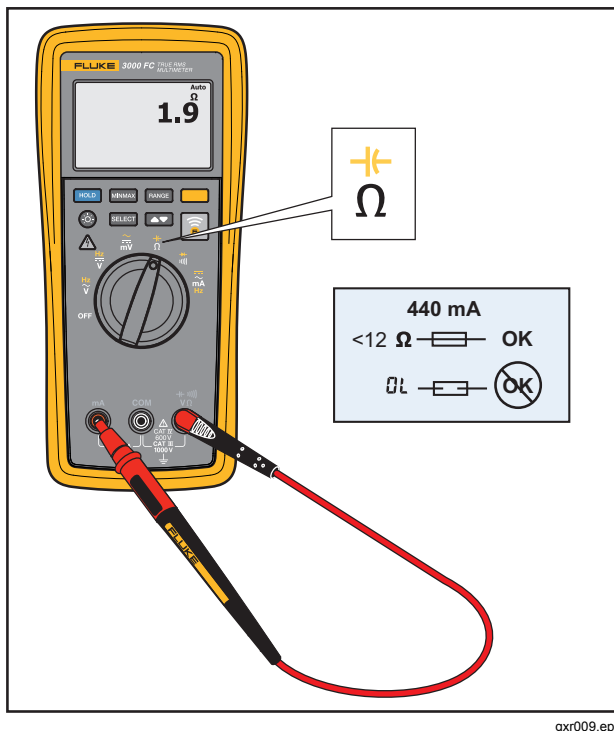

Figure 9. Fuse Test
2. Connect a test lead to the $\frac{*}{V\Omega}$ jack as shown in Figure 9.